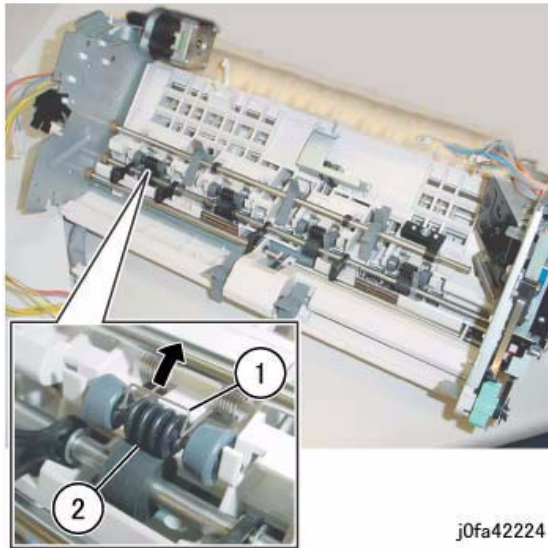

Figure 1 Removing the Pinch Rolls (j0fa42224)
3. Remove the Pinch Roll. (Figure 1)